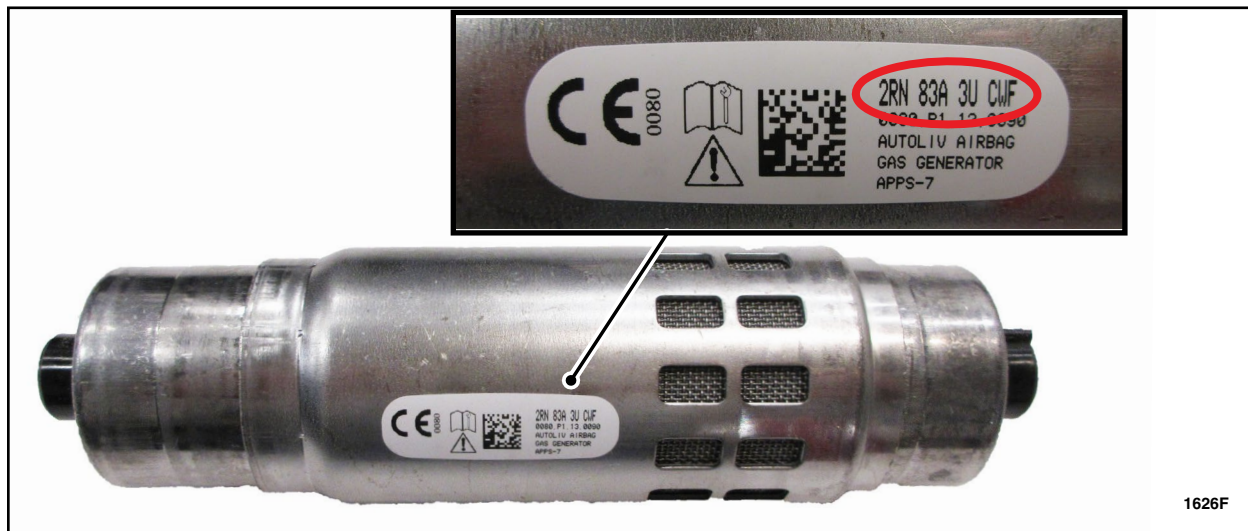

FIGURE 6
9. Record the 11 character serial number of the *new* airbag inflator on the repair order. See Figure 6.